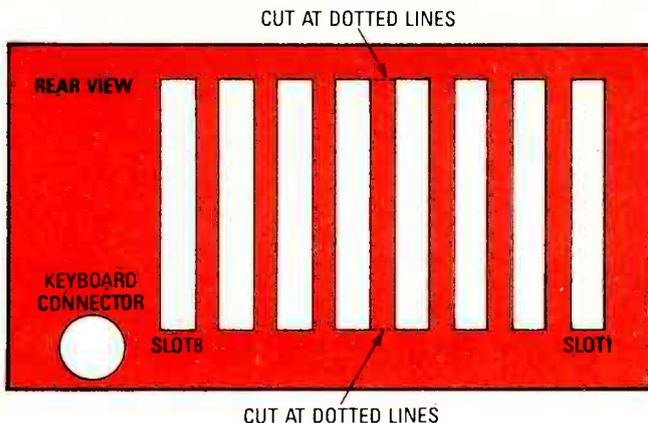

FIG. 5—CUT THE REAR CHASSIS PANEL between slots four and five as shown here to provide clearance for the ALT88.
system board. The modifications require buffering several signals through spare latches in IC17, a 74LS373. The relevant portion of the schematic was shown in Fig. 5 of the PT-68K article that ran in the April 1988 issue of Computer Digest.
**5**—To provide room for the ALT88, remove the metal support bracket between I/O slots four and five on the rear of the cabinet, as shown in Fig. 5. (Slots are numbered one through eight from left to right, facing the front of the machine.)